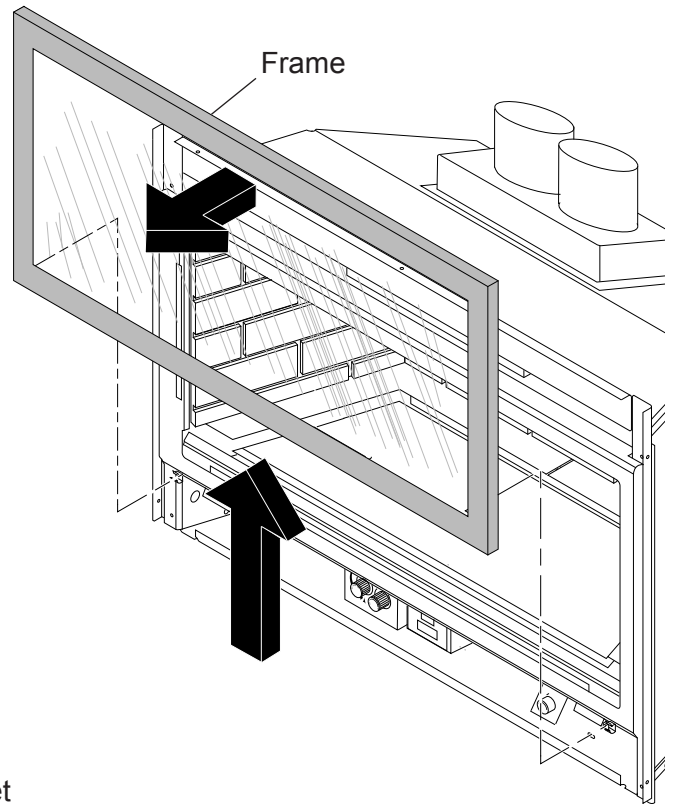

Figure 37 - Removing Glass Door
1. Put on gloves. Remove frame from insert by removing three nuts, washers and springs. See Figure 37.---
2. Carefully remove the door with broken glass. See Figure 37.